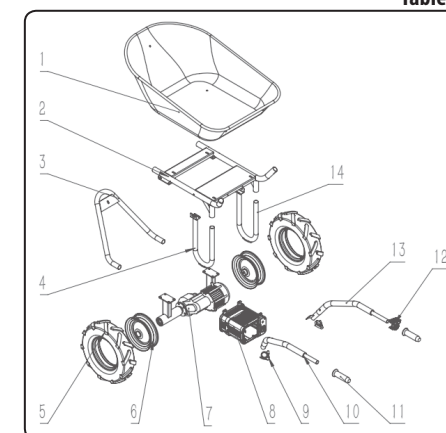

Fig. 20
- The spare part number is listed in the following table 1 - the number following the dash specifies the part in fig. 20; for ordering a part, specify the whole number, i.e. both the part before and after the dash.